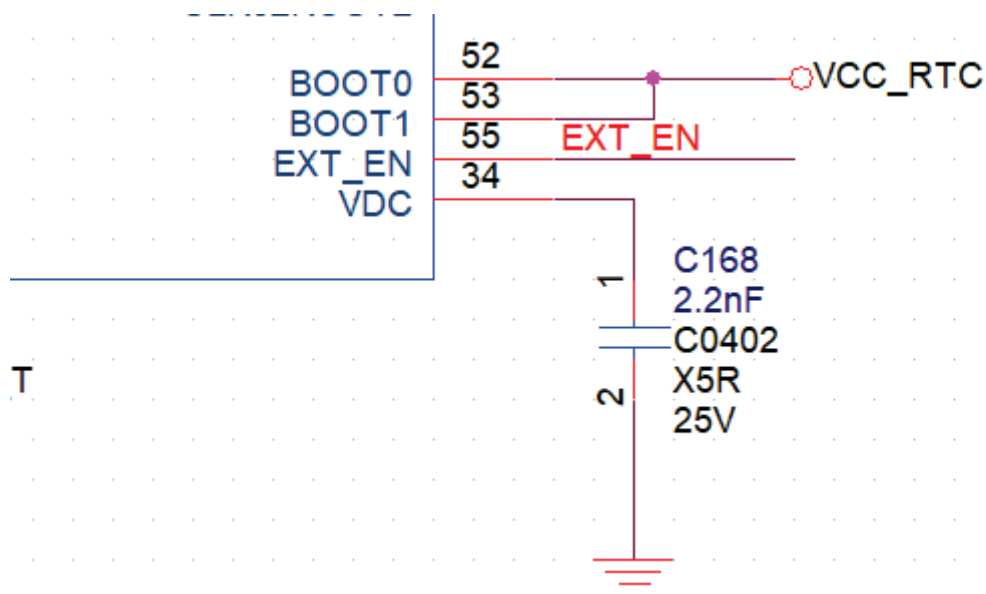

Figure 3-31 VDC Application circuit 3
- In the product, need to be power up/off use only power-key, the pin of VDC only need to be a capacitor to GND (VDC could not floating), shown as Figure 3-31.